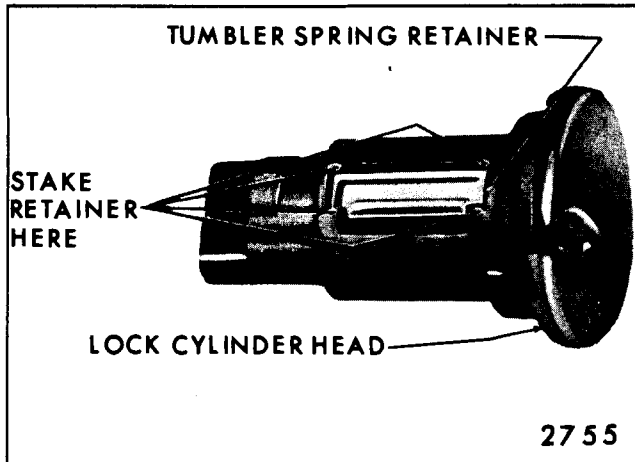

Fig. 1-6-Installing Spring Retainer
4. Insert spring retainer so that two end prongs slide into the slots at either end of cylinder. Press retainer down (See Figure 1-6).
7. Using suitable staking tool, stake spring retainer securely in place by staking cylinder metal over retainer at each end. Refer to Figure 1-6.